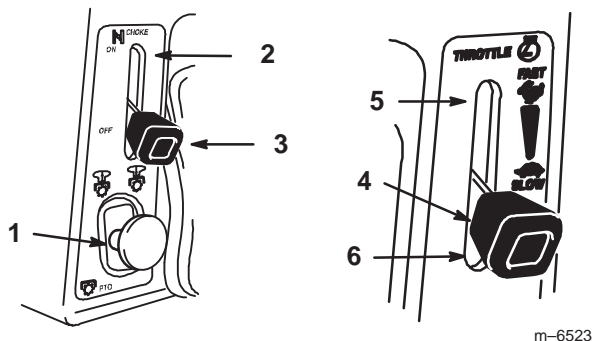

Figure 3
3. Push the PTO (power take off) to the off position (Fig. 3).
4. Move the choke lever to the on position (Fig. 3).
5. Move throttle lever to the fast position (Fig. 3).
- After the engine starts, move the choke lever to off (Fig. 3). If the engine stalls or hesitates, move the choke lever back to **on** for a few seconds. Then move the throttle lever to desired setting. Repeat this as required.
- Push the PTO (power take off) to off (Fig. 3).
- Move the throttle lever between half and full throttle (Fig. 3).